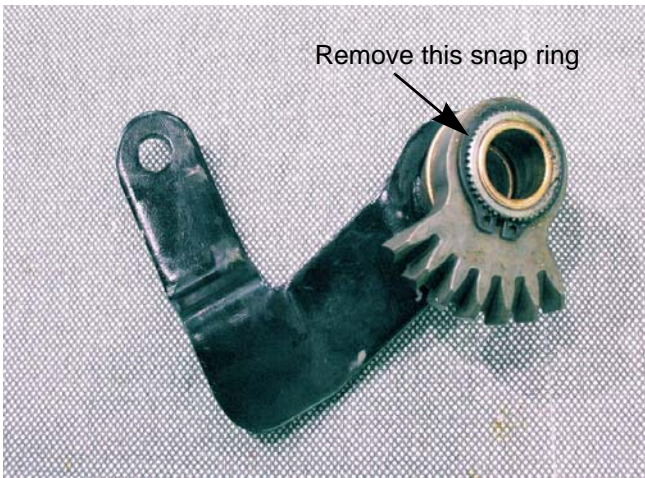

Figure 6A.38
11. Remove the washer from the input sector gear. See Figure 6A.39.